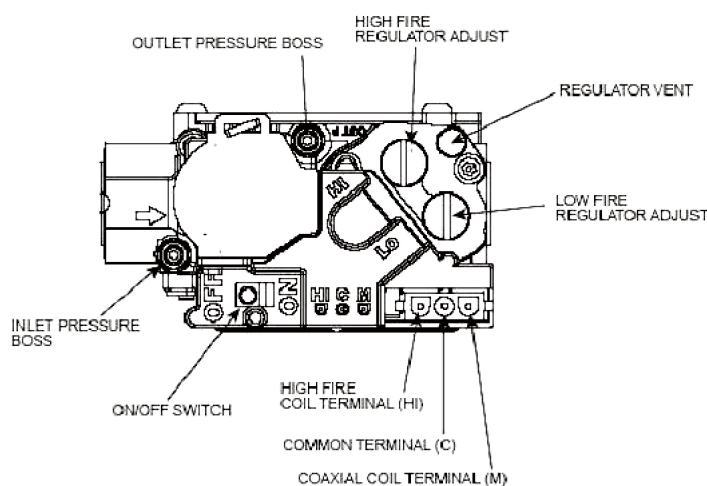

Figure 3
7. Turn the manual gas valve switch to the "OFF" position. (Figure 3)